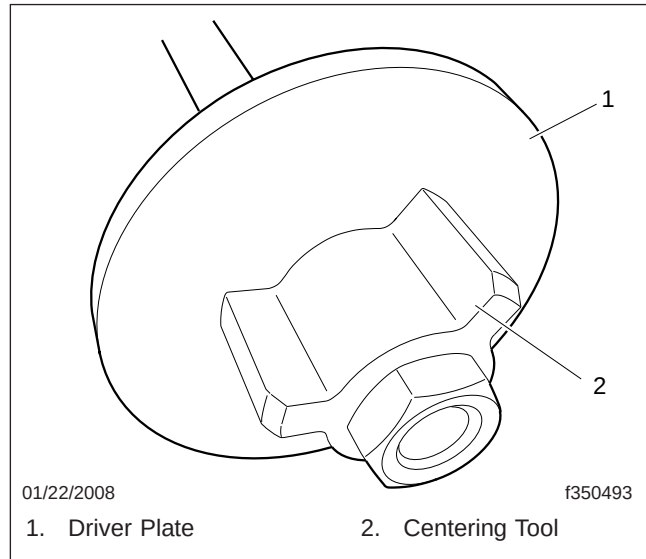

Fig. 4, Installation Tool
10. Using the appropriate driver plate and centering tool, assemble the installation tool so that the flat side of the plate is the seal installation surface. See Fig. 4. To determine which driver tool to use, see Specifications, 400.